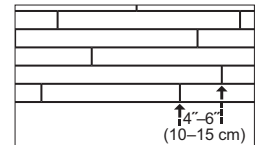

Figure 4
- When installing as a linear pattern be attentive to staggering the ends of the boards at least 4"–6" (10–15 cm) when possible, in adjacent rows (Figure 4). This will help ensure a more favorable overall appearance of the floor.
- Check for a tight fit between all edges and ends of each plank. End-joints of adjacent rows should be staggered 4"–6" (10–15 cm) when possible, to ensure a more favorable overall appearance (Figure 4).